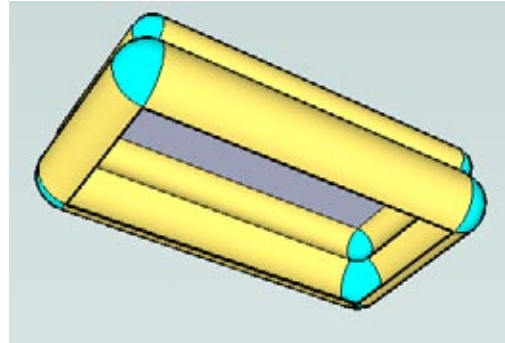

Figure 4-23
12. The table top looks fine from the top, but it's always a good idea to keep your object count low by erasing unnecessary faces and edges. Orbit to see the underside. Because the profile edges at each corner cut the rounding faces, no Intersect operation is needed. Erase faces and edges so that the round borders and corners form an empty shell (Figure 4-23).